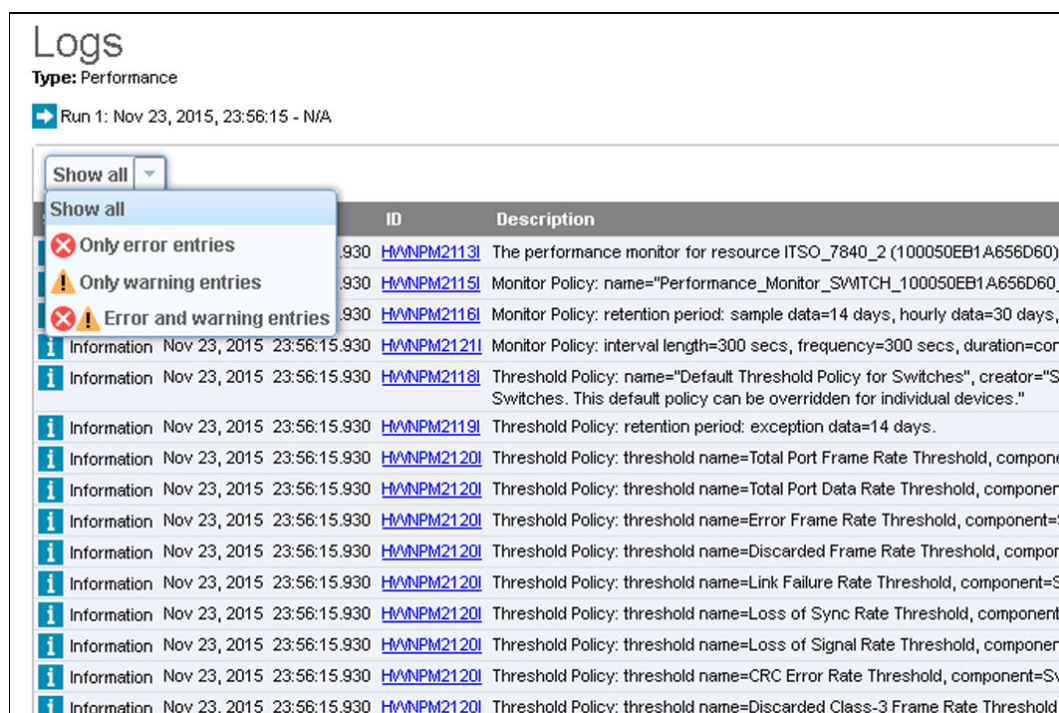

Figure 6-24 Performance monitor log window
3. A new window appears with all the performance monitor log entries for the selected switch device, as shown in Figure 6-24.
The default window displays all of the performance monitor log entries. If you want to display errors, warnings, or both, you can apply the filter by clicking the filtering drop-down menu at the top left corner of the window, as shown in Figure 6-24 on page 162.